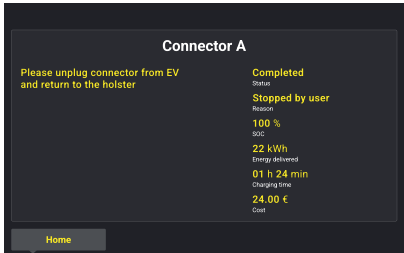

Figure 6-6 Transaction Details
E. To stop the charging session, press the stop button below the operation screen, and confirm with the same method as you authorised charging. If authorising by Credit/Debit Card or RFID Card, tap to confirm the end of the charging session. Once charging is finished, the transaction details will be displayed (see Figure 6-6 Transaction Details).